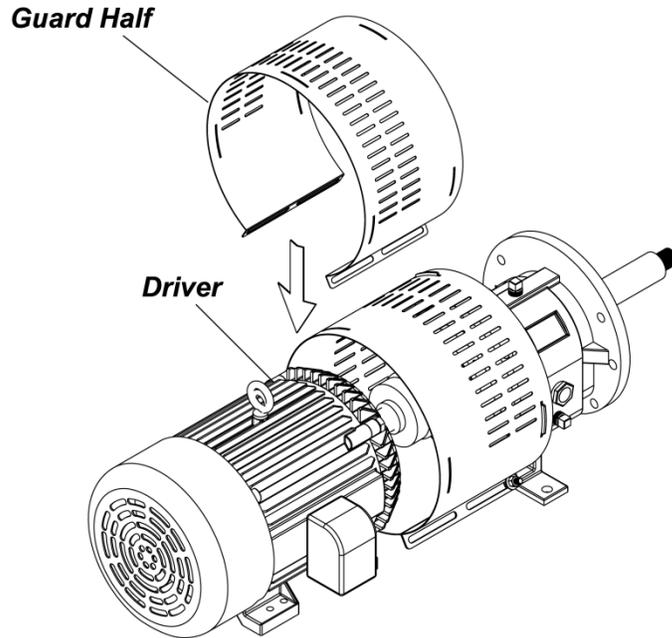

Figure 12-8: Driver end shroud install
4. Slightly spread the bottom of the coupling guard half (driver end) and place it over the coupling guard half (pump end) so that the annular groove in the coupling guard half (driver end) faces the motor as shown in Figure 12-8.